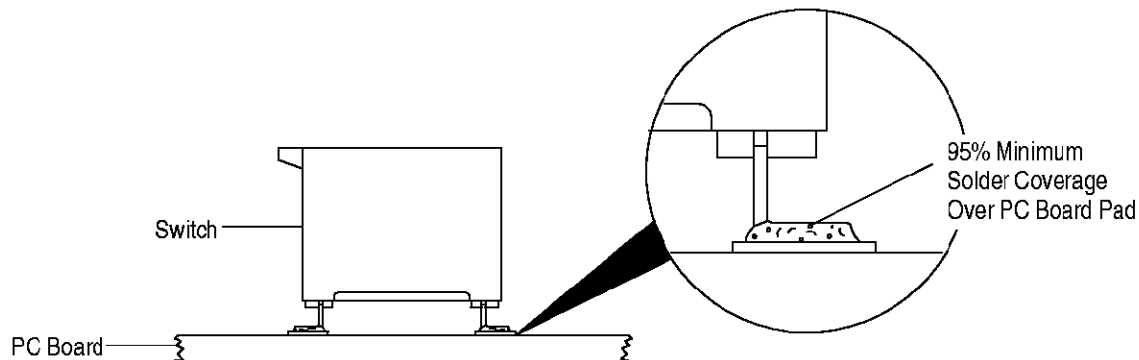

Figure 7
1. Solder must have 95% minimum solder coverage over the pc board pad. See Figure 7.